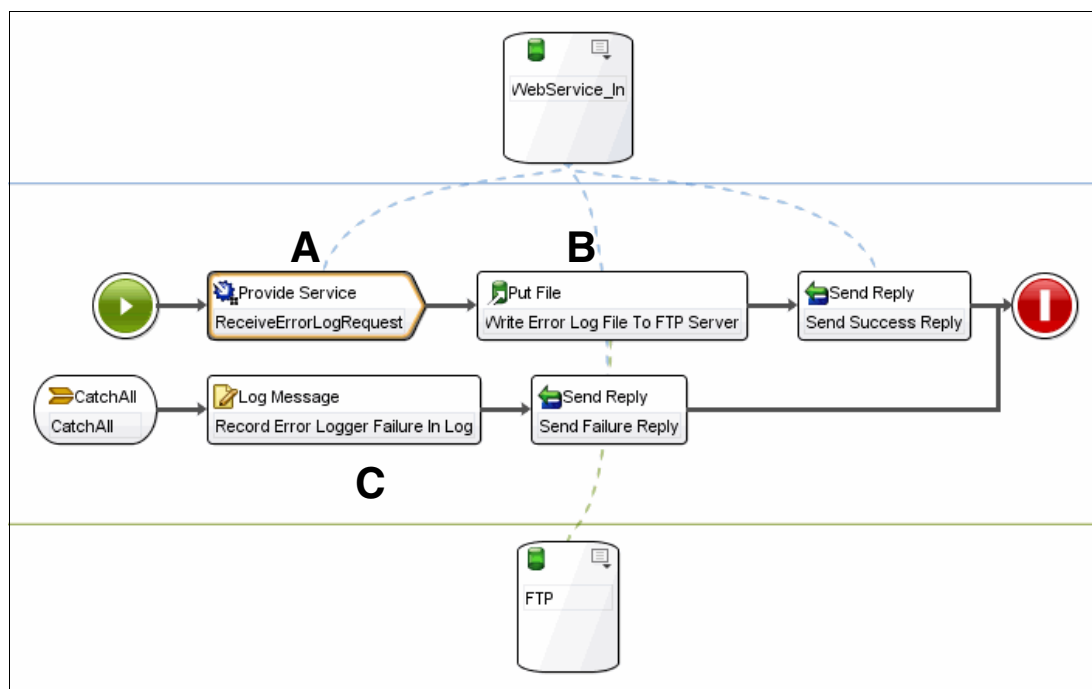

Figure 9-2 The common error handler orchestration
Figure 9-2 shows the common error handler orchestration. The endpoint `WebService_In` has a Type of Provide and a Transport of HTTP. The Port and Path fields use the following configuration properties:
In the orchestration in Figure 9-2, the Provide Service activity (A) copies its input data to an output variable called `commonErrorHandlerData`. The activity is configured to require a response. The two associated Send Reply activities send a success or failure string message back to the calling orchestration. The activity has an Activity Name of `ReceiveErrorLogRequest`.